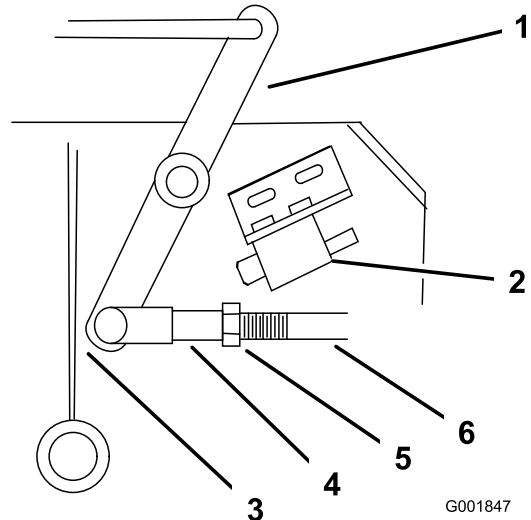

Figure 46
- Adjust the linkage length to where the lower end of the bellcrank just clears the axle support gusset (Figure 46).
9. Loosen the nut against the yoke (Figure 46).